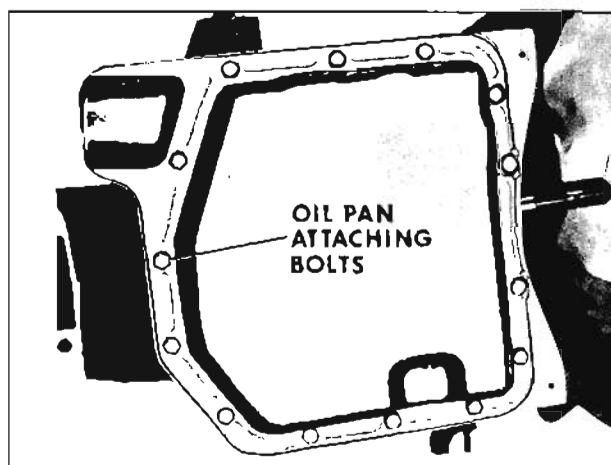

Fig. 6-254 Removing Oil Pan
Refer to Figs. 6-254, 6-473 and 6-474.
3. Remove 14 oil pan attaching bolts using a 1/2" socket. (Fig. 6-254)